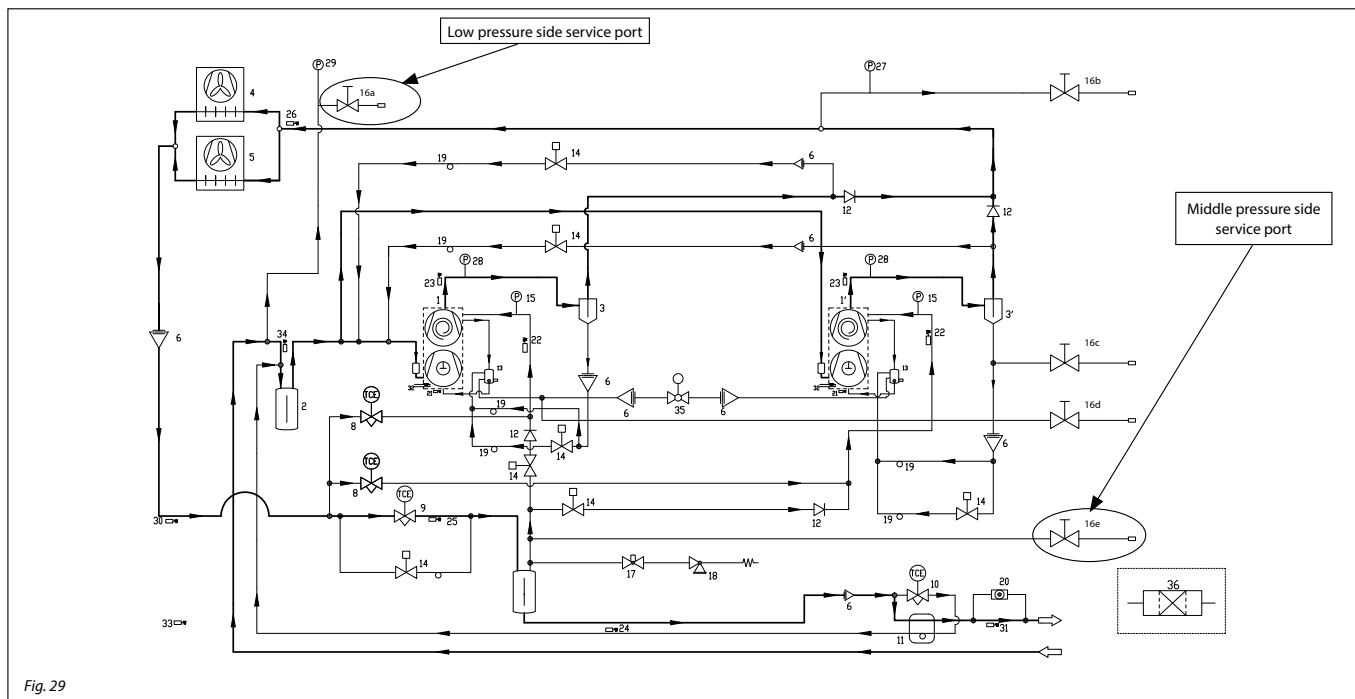

Fig. 29
- Signal cables has the polarity. Connect them as shown in fig. 29.